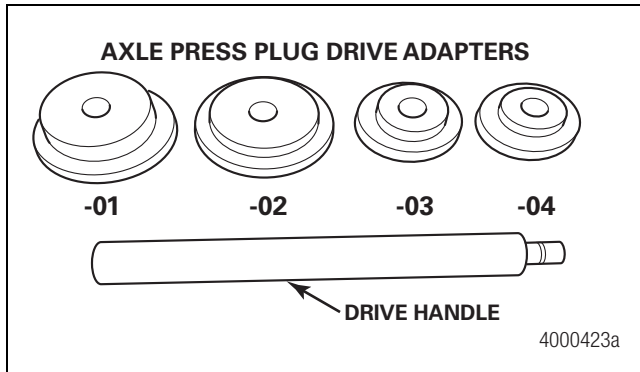

Figure 2.15
10. Choose the correct axle press plug drive adapter by matching the axle manufacturer and model to the axle press plug drive adapters. Refer to Section 7. Figure 2.15. Current production axle press plug drive adapters are identified with a number stamped on the part. Some early adapters were not marked.